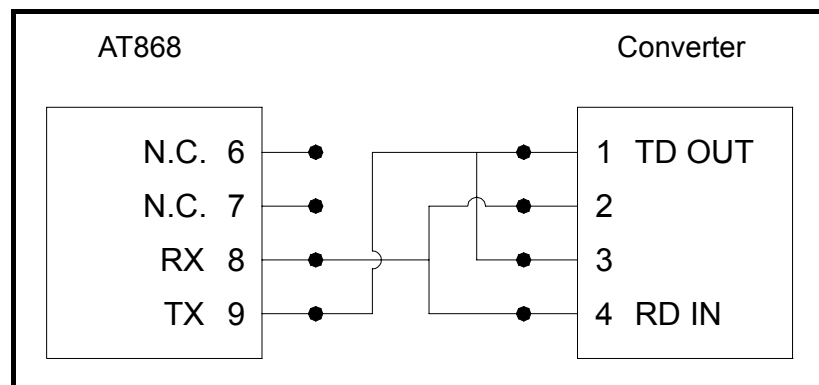

Figure 1-2: Typical RS485 Connections
3. Feed one end of the cable through the conduit hole, wire the leads to TB3 as shown in Figure 1-4 on page 1-14 and secure the cable clamp. Connect the other end of the cable to the converter, as shown in Figure 1-2 on the following page.